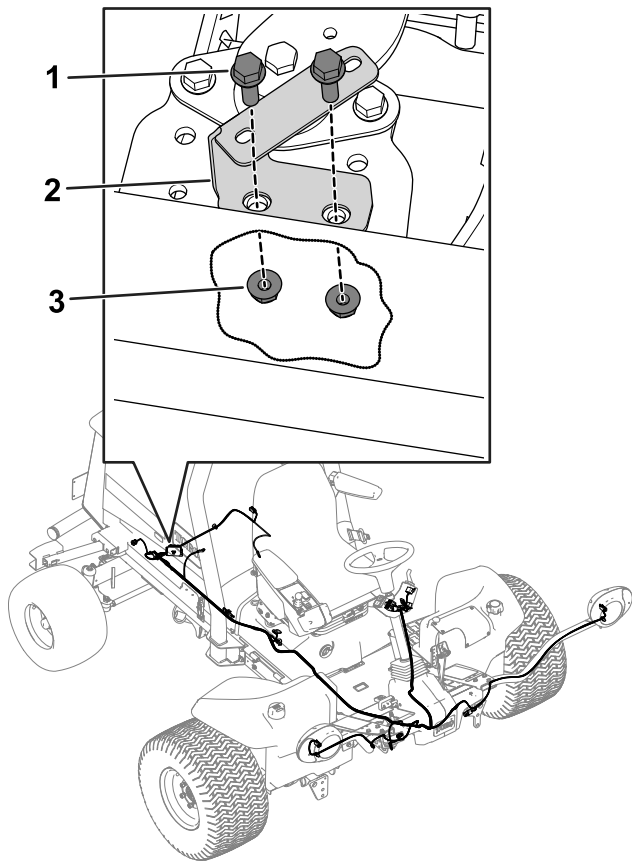

Figure 15
2. Use 2 flange bolts (5/16 x 1 inch) and 2 flange nuts (5/16 inch) to secure the fuse block mount to the engine mount frame on the right side of the machine (Figure 15).